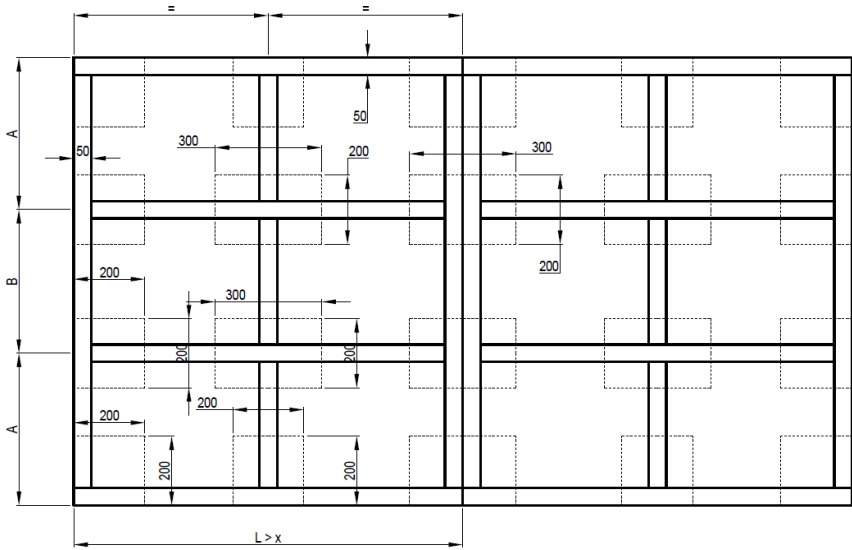

Fig. 29 Frame for AHU units sizes 0001 and 0021
e) for unit sizes 0001 and 0021 according to Fig. 29. 0001 dimensions A: 1400 mm, B:1900 mm. 0021 dimensions A:1700 mm, B:1600 mm.